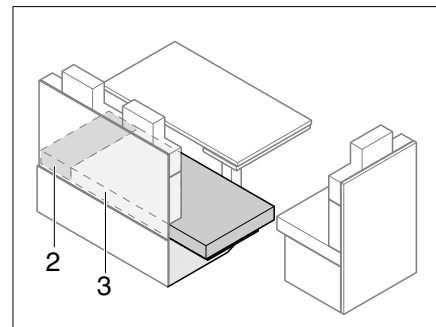

Fig. 148 After extending
- Pull the seat cushions (Fig. 148,3) onto the bench seat extension.
- Lay the additional cushions (Fig. 148,2) between the seat cushions (Fig. 148,3) and the exterior wall.
- Remove the additional cushion (Fig. 148,2).
- Pull the seat cushions (Fig. 148,3) onto the bench seat.